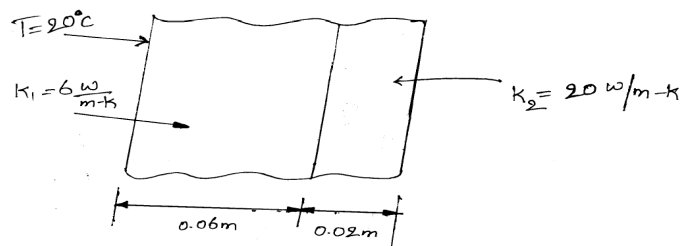

Fig.3
7. Determine the temperature distribution through the composite wall subjected to convection heat loss on the right side surface with convective heat transfer coefficient shown in Fig.3. The ambient temperature is -5°C